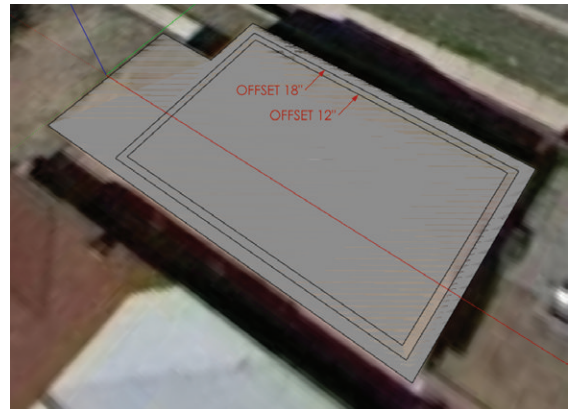

Figure 17.4 Offset the outer lines to create an estimated building footprint.
3. Using the Offset tool, offset the roof outline by 18" to create the exterior wall line (Figure 17.4).
4. Offset the exterior wall line by 12" to create the interior wall line (Figure 17.4).